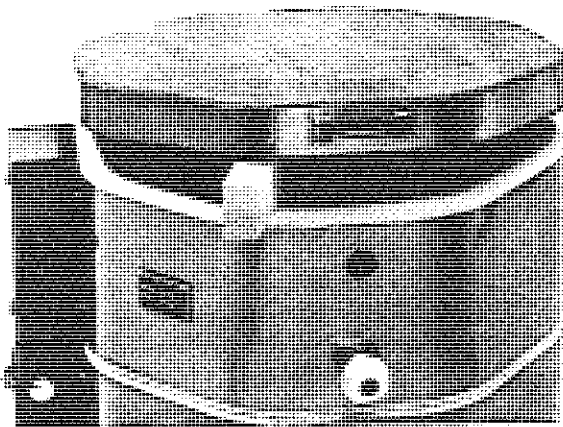

Fig. 9—Kiln lid posted for lace, china, gold or luster fire.
Always have at least one element groove between shelves and two grooves between the bottom of the kiln and the first shelf. See Figs. 9 and 10. Involve at least 2 element grooves in the heating of your 4½" Blank Ring—or 4 grooves if possible with the Model 145 Blank Ring. Remember though that the Blank Ring must be entirely removed whenever firing hotter than Cone 01—or Cone 1 in 230V. Model 231.
6. Lower lid and insert lid prop. 2½" for overglaze and lace fires, 1" for all others. See Figs. 9 and 10.